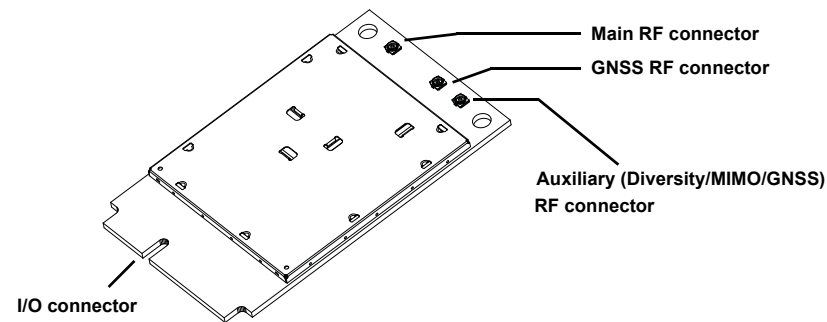

Figure 4-1: Module Connectors
- Use Hirose U.FL connectors (3 mm x 3 mm, low profile; model U.FL #CL331-0471-0-10) to attach antennas to connection points on the module, as shown in Figure 4-1 on page 33.
- Connect to system ground using the two mounting holes at the top of the module (shown in Figure 4-1 on page 33).